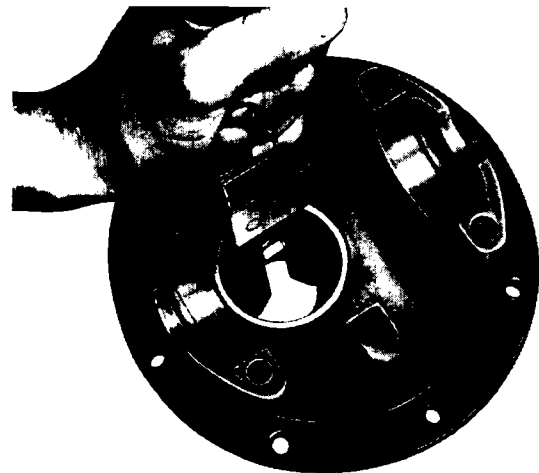

Fig. 38. Driving out pinion bearing outer races
Drive out the pinion tail bearing outer race, the oil seal (58) and the head bearing outer race. See Fig. 38.